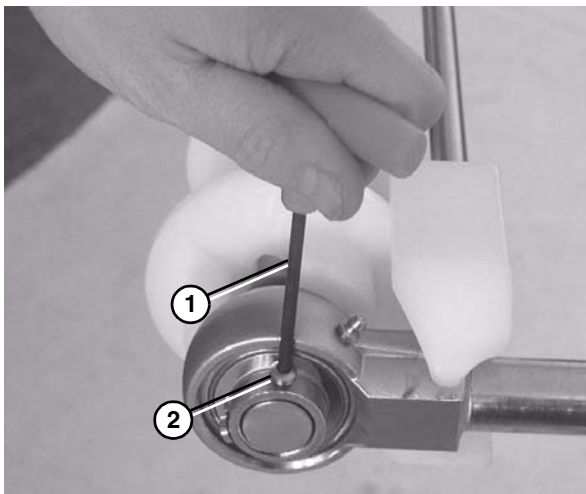

Figure 65
5. Use a hex wrench (**Figure 65, item 1**) to tighten the bearing shaft fasteners (**Figure 65, item 2**) to 54 in•lbs (6 N•m). Check after 24 hours of conveyor use.